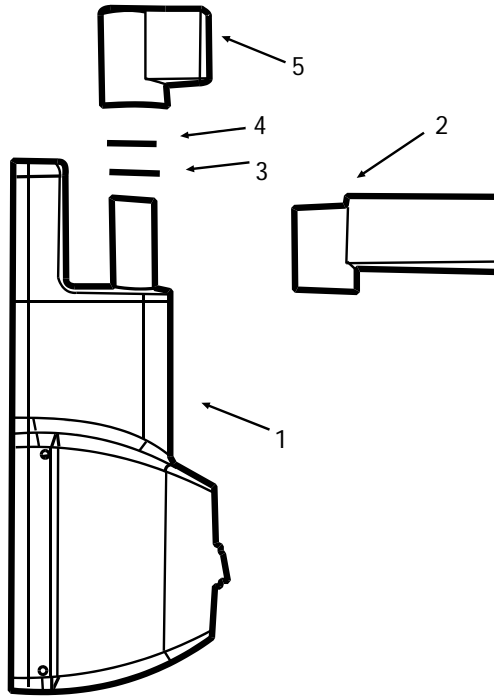

fig.5 Assembly of the arm to wall holder
- Assembly the supporting mars system to wall holder (fig. 5),